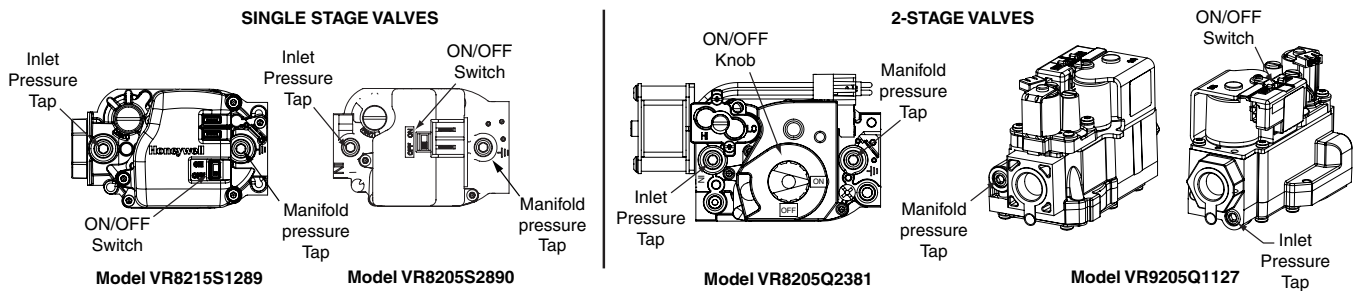

Figure 6. Inlet & Manifold Pressure Tap Locations
2. Using a 3/16" Allen wrench, remove the plug from the inlet pressure tap (INLET side of gas valve). See Figure 6 (page 6).
4. Place the gas valve ON/OFF switch/knob to the ON position. See Figure 6.
3. Using a 3/16" Allen wrench, remove the manifold pressure tap plug located on the outlet side of the gas valve. See Figure 6.